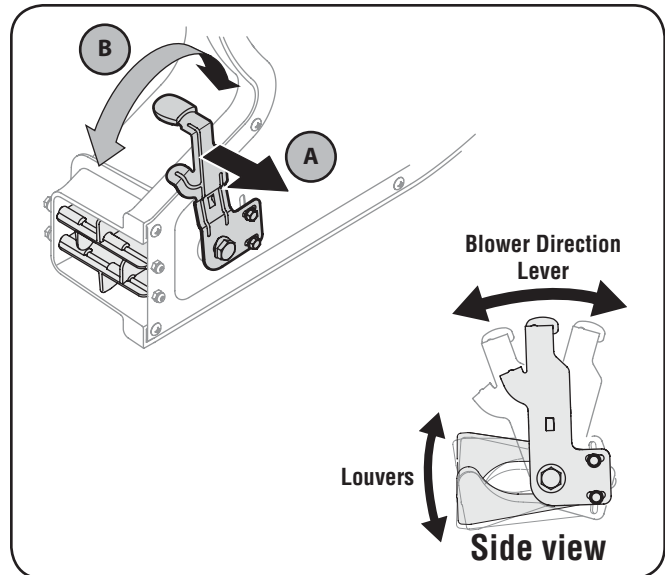

Figure 5-1
2. Pull the lever out and away from the blower. See Fig. 5-1.